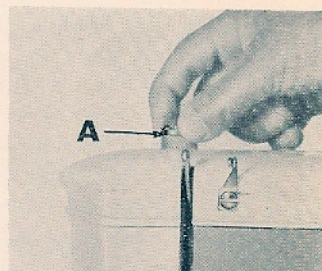

Fig. 19
The PUSHBUTTON DARNER is located on top of the machine directly over the presser bar (Fig. 19 & 20). It regulates the pressure of the presser foot for sewing very heavy material, very thin material, and for darning and embroidering.
1. To eliminate the pressure of the presser foot for darning, embroidering and monogramming, push down the OUTSIDE RING of the PUSHBUTTON DARNER (A) and the material can be moved by hand while the machine is running at a fair speed. (Fig. 19)